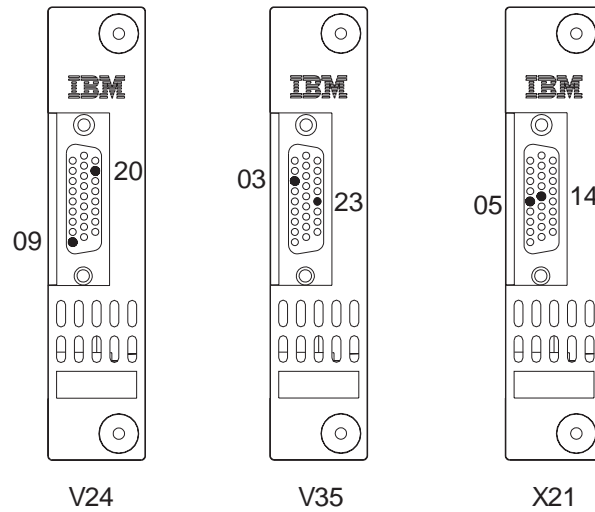

Figure 6-12. ARC Type
1. \_\_\_\_ **Obtain** (from the 2220 shipping group) the ARCs ordered by the customer, see Figure 6-12.